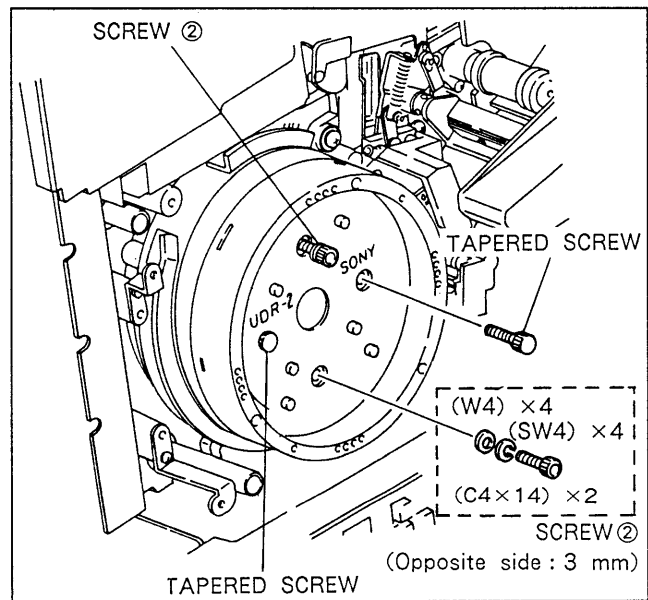

Fig. 6-1-6. Temporary Installation of the Upper Drum
7. Install the two tapered screws into the holes shown in Fig. 6-1-6 (on a diagonal line) temporarily, and tighten them. These tapered screws are used to determine the mounting position of the upper drum.